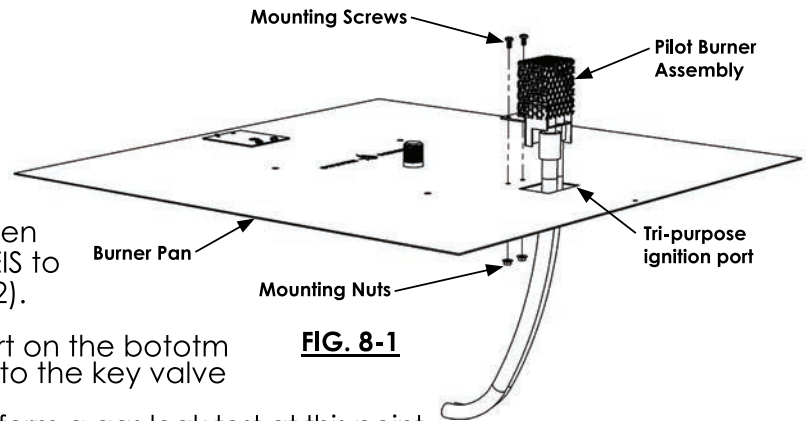

FIG. 8-1
5. Insert the pilot burner assembly through the tri-purpose ignition port on the burner pan and attach as shown in Fig. 8-1.